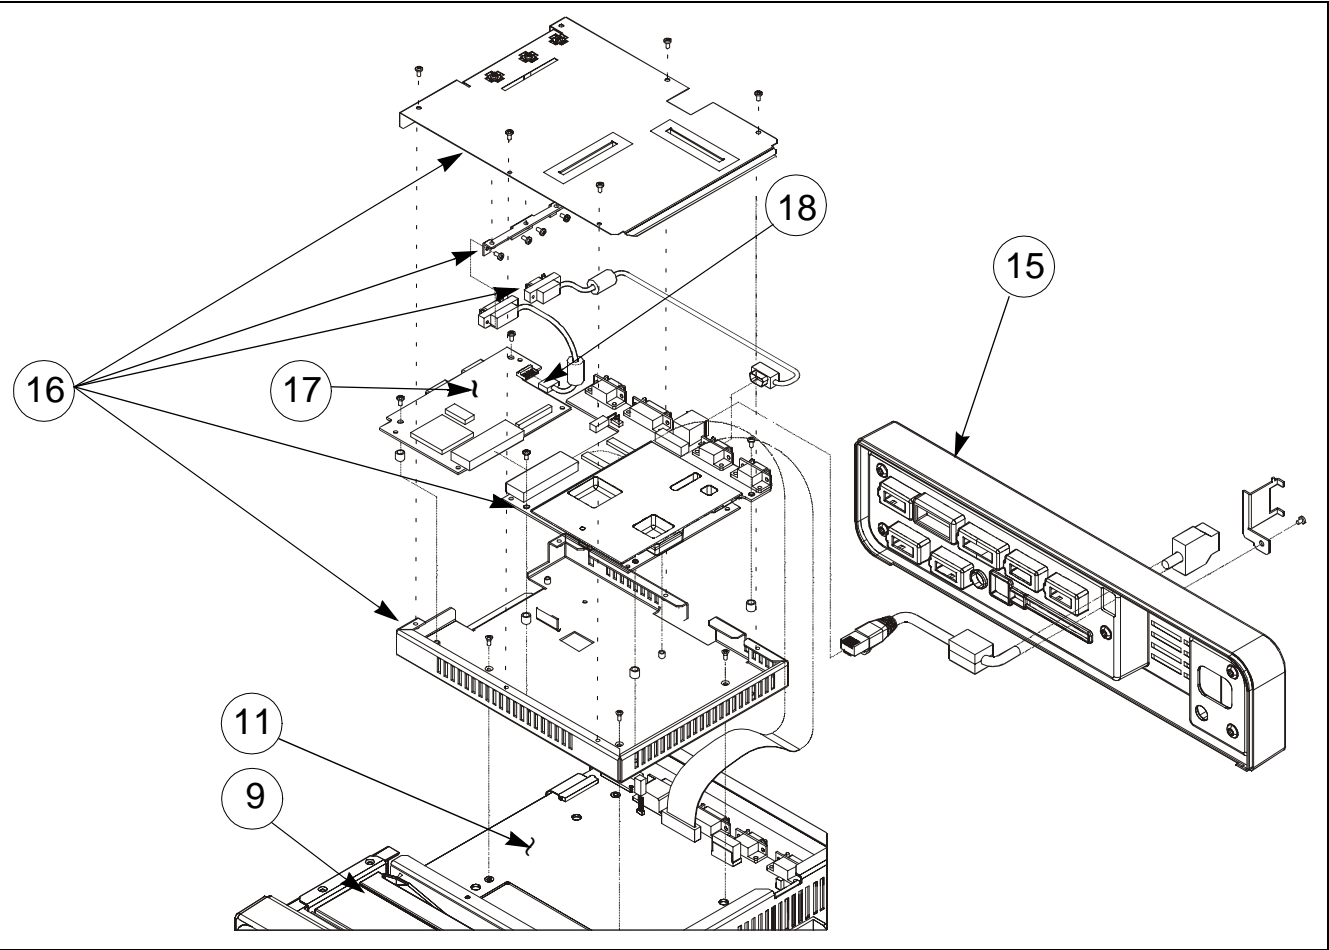
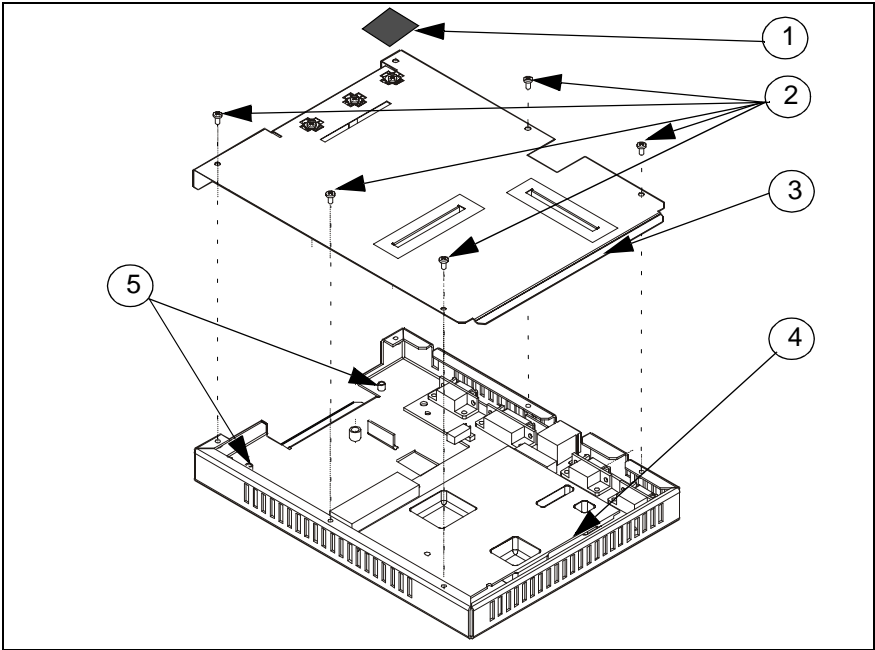
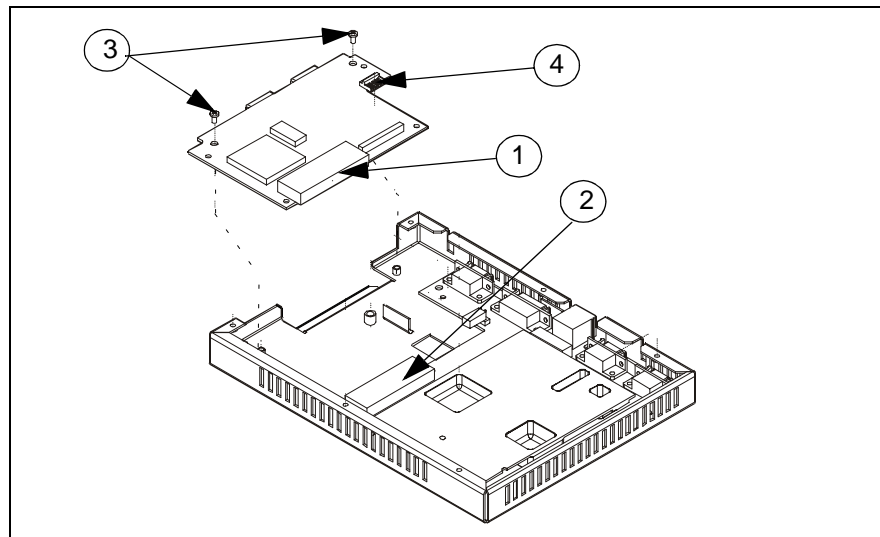

Figure 3-6 Adv Comm ⑯ and MIB 1&2 ⑰ Options, and Rear Panel ⑮ for Installed Adv Comm Option
Figure 3-7 Comm Option Subassembly Cover Removal/Installation; Location of MIB 1&2 Mounting Posts ⑤
Figure 3-8 Removing/Installing MIB 1&2 Option PC board
In the SC 8000 Patient Monitor, the MIB 1&2 Option PC board resides in the Adv Comm Option Subassembly. See ⑰ in Figure 3-6 on page 40. Both MIB 1&2 Option and Adv Comm Option subassemblies must be removed to access and service Comm Connector PCB and Main PCB Subassemblies.
- 2) Carefully observe how tape (① in Figure 3-7 on page 40) has been applied to outside back corner of Adv Comm Option subassembly chassis, so that the tape can be reapplied in **exactly** same manner. Then remove and save tape.
- 3) Remove and save five screws (② in Figure 3-7) that secure Adv Comm Option subassembly cover to chassis.
- 4) Slide tongue of cover (③ in Figure 3-7) out from under lip at back of chassis (④ in Figure 3-7).
- a) If MIB 1&2 Option installed, unplug CAN cable connector ((18) in Figure 3-6 on page 40) from MIB 1&2 Option PC board connector ((4) in Figure 3-8). Set cover upside down beside monitor chassis and continue to step 1 of Section 2.13.2.
- 1) Remove mounting screws ((3) in Figure 3-8) that secure MIB Option PCB to Adv. Comm Option chassis.
- 2) Unplug MIB 1&2 Option PC board ((1) in Figure 3-8) from Adv. Comm Option PC board ((2) in Figure 3-8), and set aside in static-protected environment if PC board is not being replaced and is to be reinstalled.
- 3) Reinstall screws removed in step 1 onto threaded mounting posts to safely store screws ((3) in Figure 3-8) and 1/4" dia. x 3/16" (6mm dia. x 4.5mm) spacers ((5) in Figure 3-7) for use in reassembly.